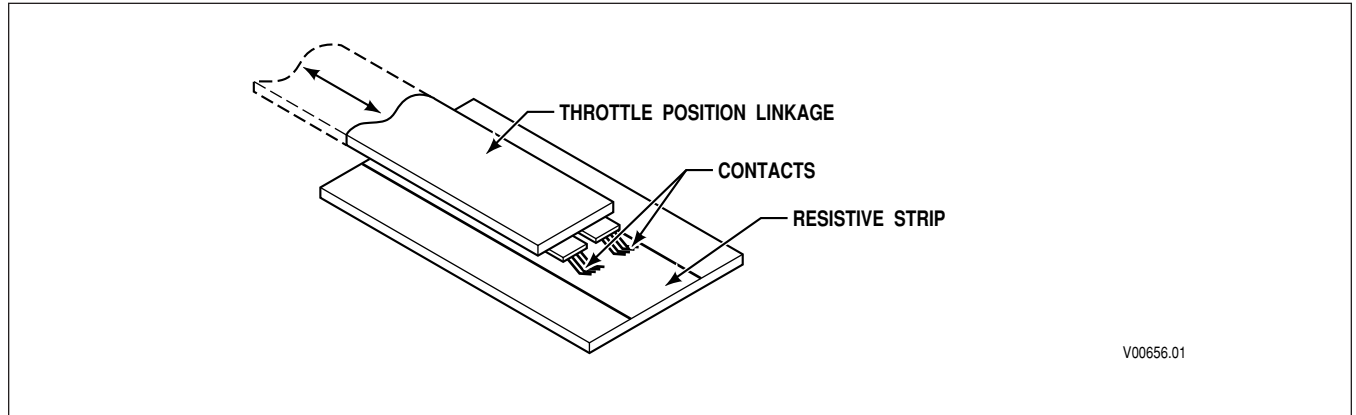

Figure F-1. Throttle Position-to-Voltage Conversion
1. To properly communicate throttle position to the TCM, the throttle position sensor must convert mechanical movement to an electrical form the TCM can understand. To accomplish this, contacts move across a resistive strip inside the sensor which translates position into voltage (refer to Figure F-1).